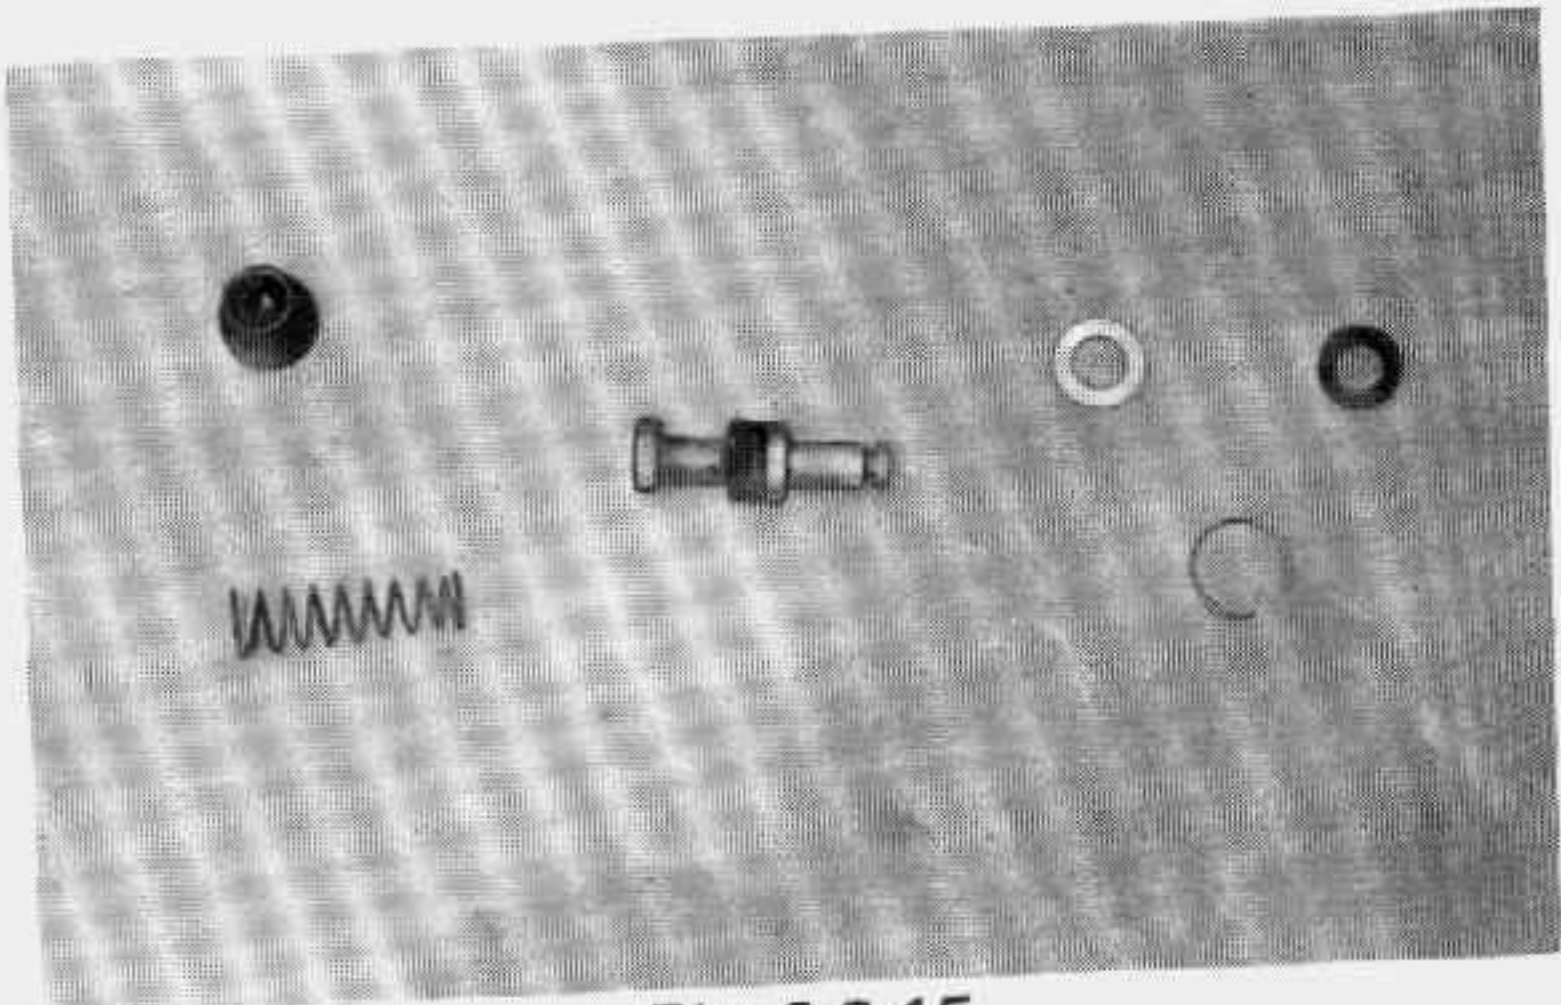

Fig. 8-2-15.
e) Put the removed parts into a clean container and wash them in new brake fluid as shown in Fig. 8-2-15.